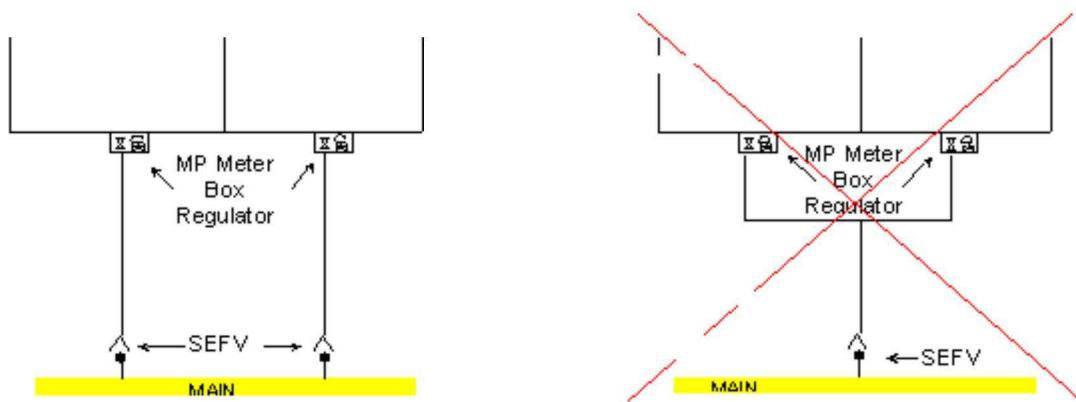

Figure C6 - Acceptable and Unacceptable dual MP Service
4. An SEFV shall not be installed on a medium pressure dual service. (Figure C6).